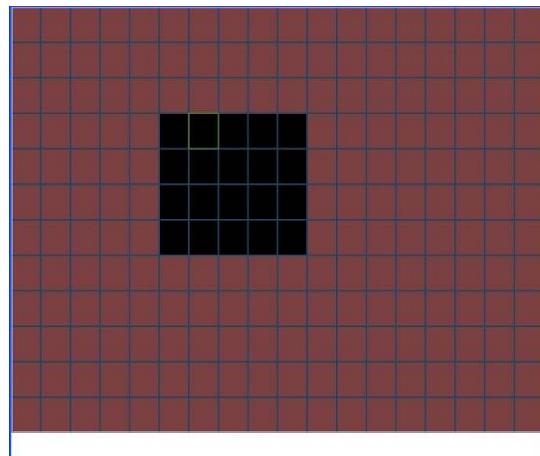

Figure 4-21
- Region: Click select button, the interface is shown as in Figure 4-21. Here you can set motion detection zone. There are 396(PAL)/330(NTSC) small zones. The green zone is current cursor position. Grey zone is the motion detection zone. Black zone is the disarmed zone. You can click Fn button to switch between the arm mode and disarm mode. In arm mode, you can click the direction buttons to move the green rectangle to set the motion detection zone. After you completed the setup, please click ENTER button to exit current setup. Do remember click save button to save current setup. If you click ESC button to exit the region setup interface system will not save your zone setup.
In Figure 4-21, you can left click mouse and then drag it to set a region for motion detection.